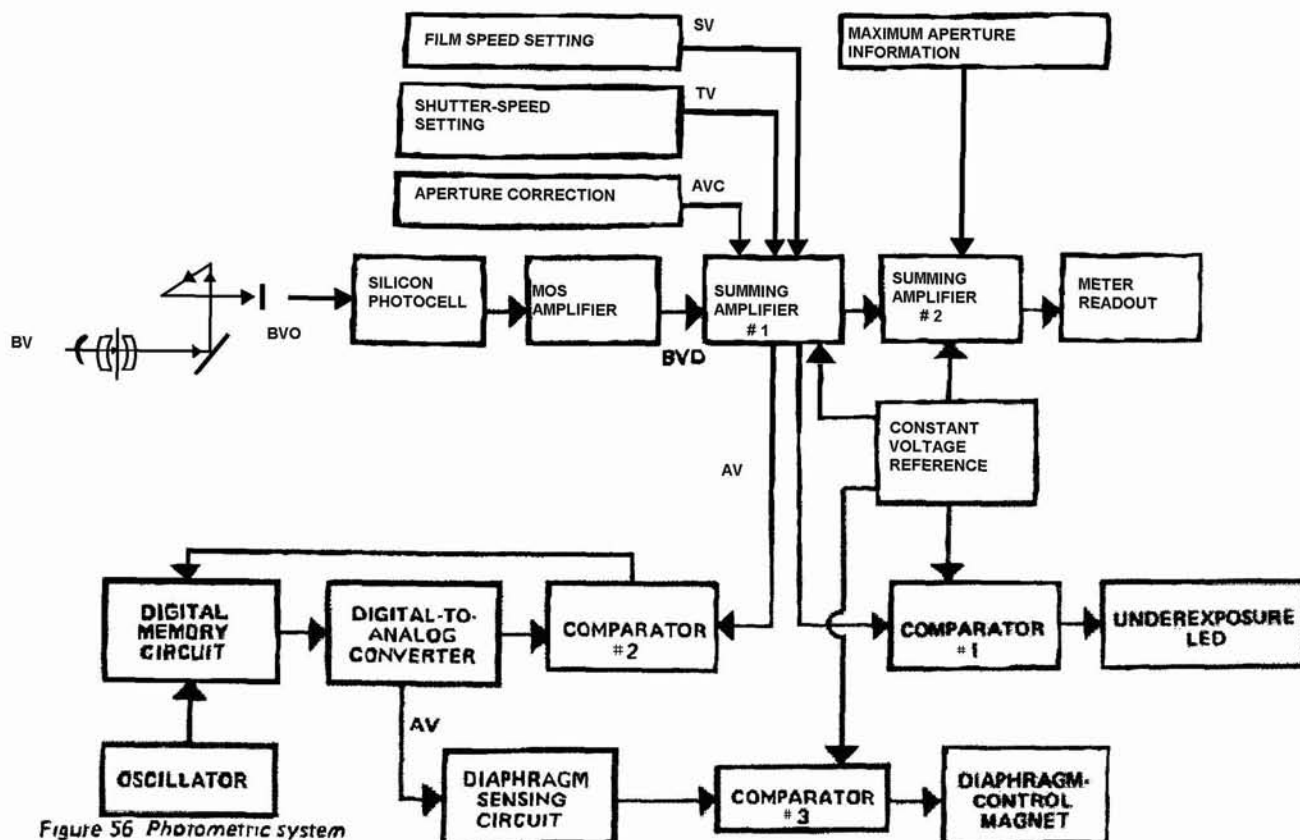

Figure 56 Photometric system
Probably the most unique part of the AE-1 involves the photometric system—the system that reads the light, provides the meter indication, and controls the diaphragm closure. Since Canon uses the Apex system in its service materials, we've put the Apex symbols in Fig. 56.
The brighter the light (the higher the BVO), the more voltage the silicon photocell puts out. The MOSFET then amplifies the voltage across the photocell. This amplified version of BVO goes to summing amplifier No. 1 in Fig. 56.
considered. But for the meter readout, the system must add one more factor—the maximum-aperture information AVO. A second variable resistor on the mirror cage, also controlled by the maximum-aperture correction pin, provides the maximum-aperture information. Summing amplifier No. 2, Fig. 56, then adds the maximum-aperture information to the AV information from summing amplifier No. 1. And it provides an output which drives the galvanometer needle to the proper f/stop reading.
So far, all we've done is get a meter readout. However, the same AV information at the output of summing amplifier No. 1 also controls the diaphragm-closing system. Notice that the two lower outputs from summing amplifier No. 1, Fig. 56, go to comparators.
Comparator No. 1 in Fig. 56 controls the underexposure LED in the finder. First, it compares the AV signal from summing amplifier No. 1 to the constant voltage reference V_c . If AV is below 1.2 volts, the comparator switches into positive saturation. And the underexposure LED flashes on and off, telling you that you're outside the metering limits.
2. And comparator No. 2 controls the memory circuit. When you depress the release button to close SW2, the oscillator shown in Fig. 56 starts feeding pulses to the digital memory circuit.
A digital-to-analog converter constantly monitors this count. And it turns the digital count into an analog voltage. As the count increases, the voltage output of the digital-to-analog converter decreases. This voltage then provides the second input to comparator No. 2 in Fig. 56—the other input, you'll recall, is the AV signal from summing amplifier No. 1.
Consider that the diaphragm is now closing. That means the diaphragm-control electromagnet Mg1 remains energized. As the diaphragm closes, it lowers the resistance in the diaphragm-sensing circuit, Fig. 56.
So the diaphragm-sensing circuit modifies the AV output of the digital-to-analog converter. And it supplies this changing output to comparator No. 3, Fig. 56. When the diaphragm-sensing circuit drops the AV input below the VC reference signal, comparator No. 3 switches into positive saturation. That shuts off the current flowing through the diaphragm-control electromagnet Mg1.
In a moment, we'll go through the same operations using the actual circuit. You'll then be able to see the test points and troubleshooting procedures. But you'll notice in Fig. 56 that you have a natural dividing point for troubleshooting—the output of summing amplifier No. 1.
Or, suppose that the diaphragm fails to stop down properly. It always remains at the largest aperture or it always stops down to the smallest aperture, regardless of the light conditions. Yet the meter reads correctly. Again, you know that the output of the first summing amplifier must be correct. Why? Because the meter reads properly. So the problem must be in the lower part of Fig. 56—most likely, the diaphragm-sensing resistor.
Amplifier AR1 inside PX3, Fig. 59, corresponds to summing amplifier No. 1 in the block diagram, Fig. 56. AR1 adds the shutter-speed information, the lens information, and the film-speed information to BVO.